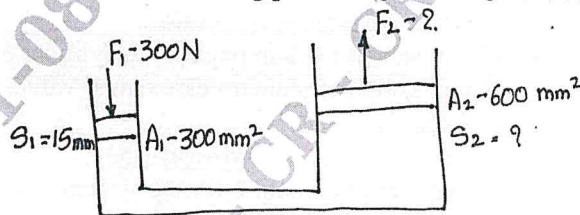

Fig.Q1(b)
- Define Pascal's law and solve the following problem. [Refer Fig.Q1(b)]